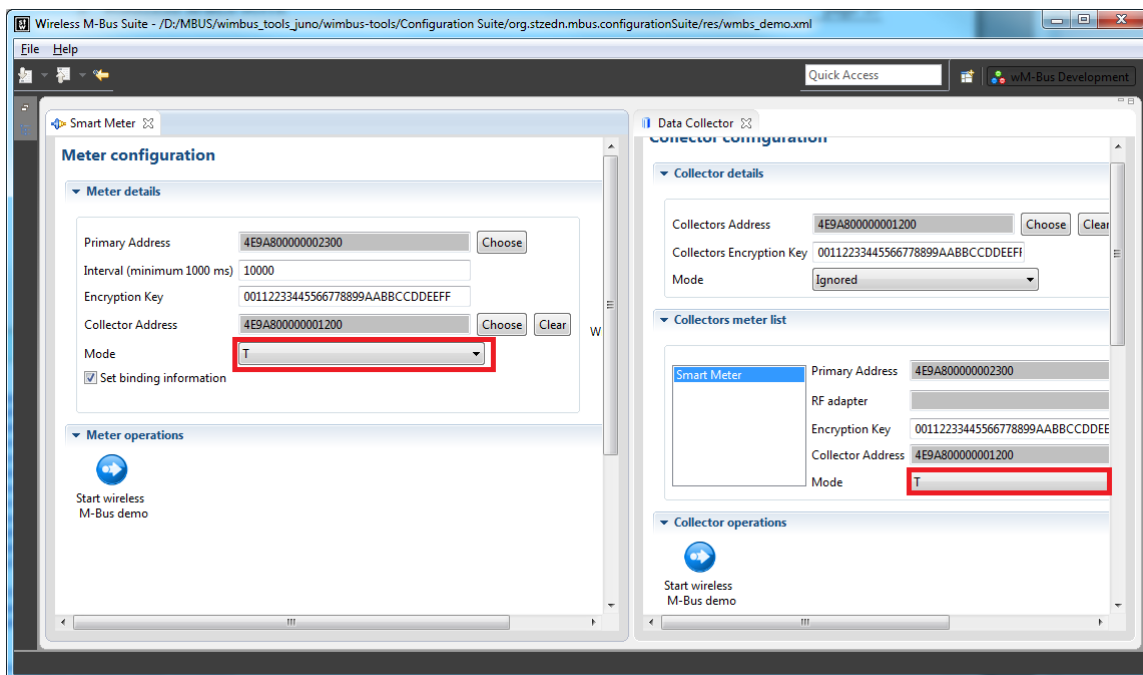

Figure 3.14: Collector C and Meter T
The selection box can be ignored for modes S and T, as well as for a mode C meter device. If a C collector shall be used with a T meter, please set the meter to mode T (as shown in figure 3.14). The reason is that the collector needs the information of the supported channels of the meter. Otherwise the collector will only be able to receive packets of the meter (RX), but is not able to send packets to the meter (TX).